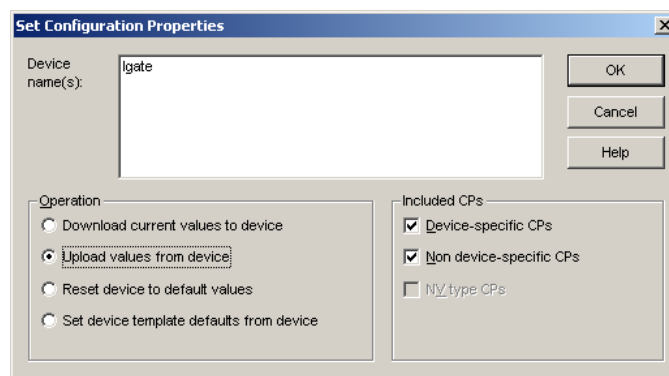

Figure 90: Set Configuration Properties in LonMaker TE.
2. This opens the dialog shown in Figure 90.